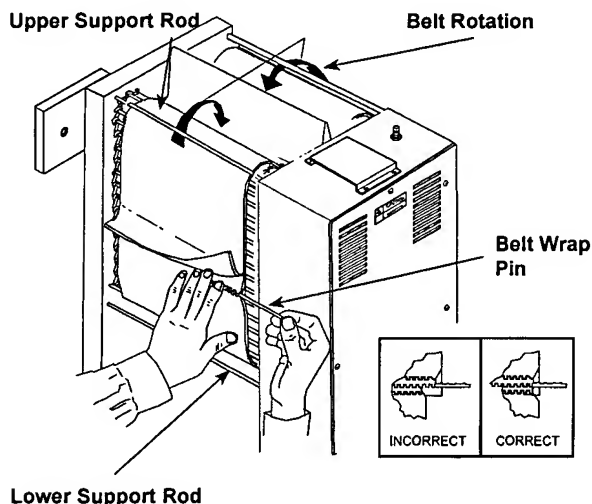

Figure 14. Installing Belt Wrap
5. The belt wraps must be installed properly in order to work correctly. Install the belt wraps as shown in Figures 14 & 15.